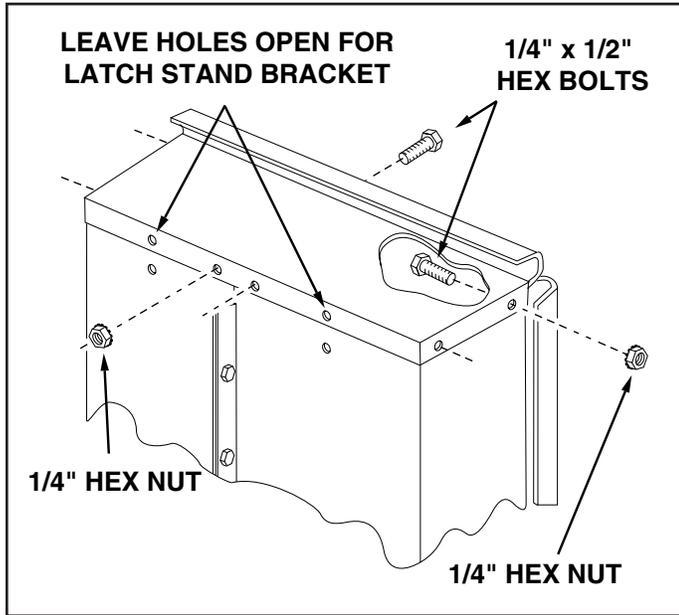

FIGURE 4
9. Assemble the front panel over the end of the cart using six 1/4" x 1/2" hex bolts and 1/4" hex nuts as shown in figure 4. Leave two holes in the bottom of the panel empty as shown. With the cart body halves pulled together, **tighten** the bolts in the bottom of the front panel, then **tighten** the bolts in the sides. See figure 4.